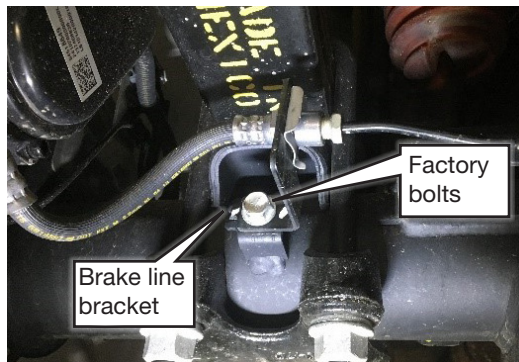

Fig. 9
- Attach the brake line tab bracket (G) using the previously removed factory hardware and tighten securely on both sides of the vehicle (Figs. 9 & 10).